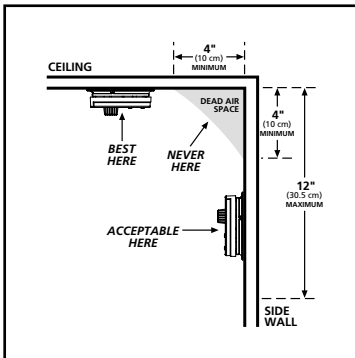

FIGURE 1
- If a ceiling mounting location is not feasible the next logical location for mounting heat alarms is on the side wall. When mounting the alarm on the wall, use an inside wall with the top edge of the alarm at a minimum of 4" (10 cm) and a maximum of 12" (30.5 cm) below the ceiling (see Figure 1).
Modern mobile homes have been designed and built to be energy efficient. Install heat alarms as recommended above (refer to RECOMMENDED LOCATIONS and FIGURE 1).
In older mobile homes that are not well insulated compared to present standards, extreme heat or cold can be transferred from the outside to the inside through poorly insulated walls and roof. This may create a thermal barrier which can prevent the heat from reaching an alarm mounted on the ceiling. In such units, install the heat alarm on an inside wall with the top edge of the alarm at a minimum of 4" (10 cm) and a maximum of 12" (30.5 cm) below the ceiling (see FIGURE 1).